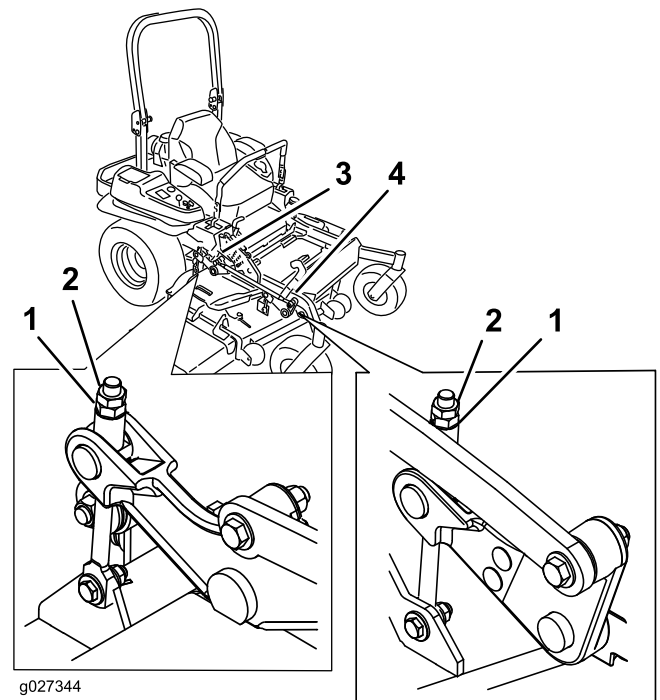

Figure 94
10. If needed, loosen the flanged locknut on the side of the yoke and the jam nut on top. Fine-tune the adjuster screw by turning it to get 7.6 mm (3 inch) height (Figure 94).
16. Fine-tune the adjuster screw by turning it to get 8.3 mm (3-1/4 inches) height (Figure 94).